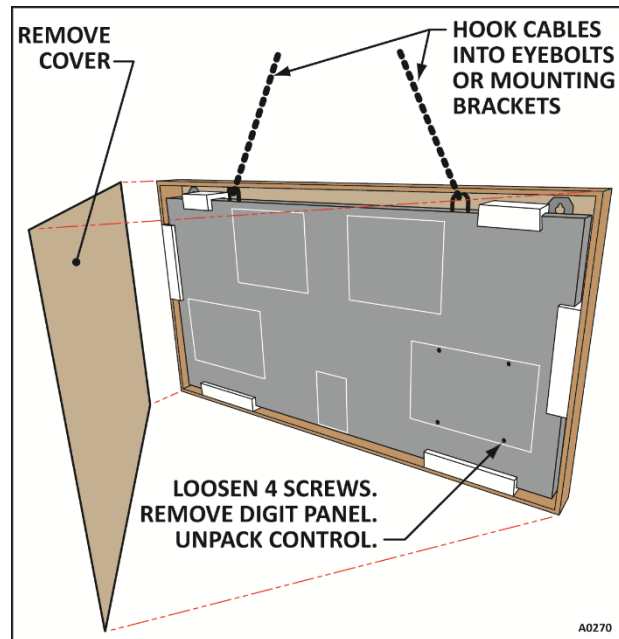

FIGURE 2 – UNPACKING THE INDOOR SCOREBOARD
1. Remove one side of the shipping crate. See Figure 2.